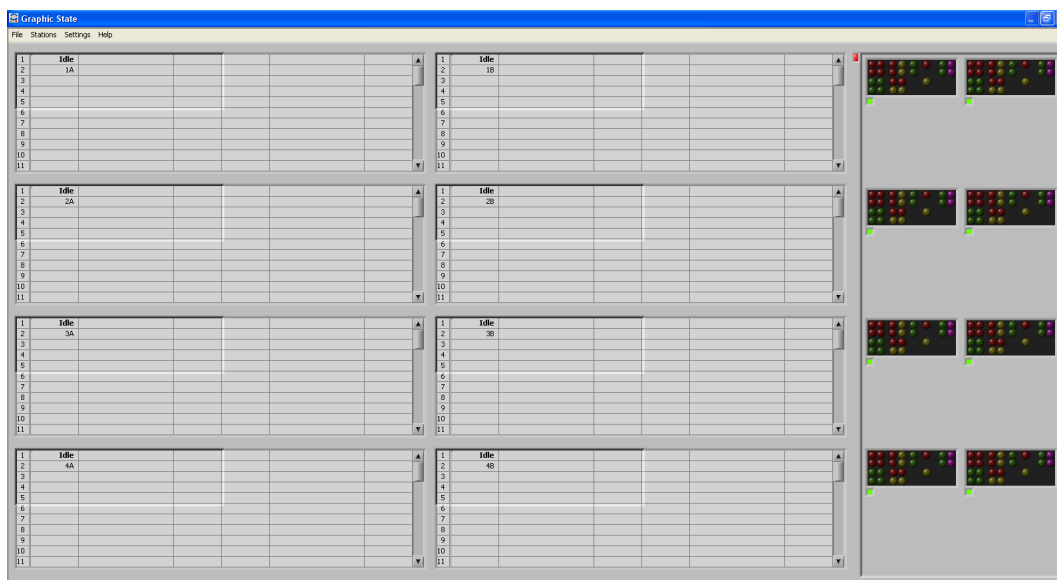

FIGURE 19
The 16 tables correspond to the 16 $\frac{1}{2}$ -Lincs on the Habitest hardware. If you are running fewer than eight (8) Habitest Lincs you can change the display to show only the number of Habitest Lincs you are using by selecting the “Lincs Displayed” option from the “Settings” menu. Choose the number of Lincs you want to display. For example, if you choose four (4) Lincs, the Run Time display will appear as displayed as Figure 19.